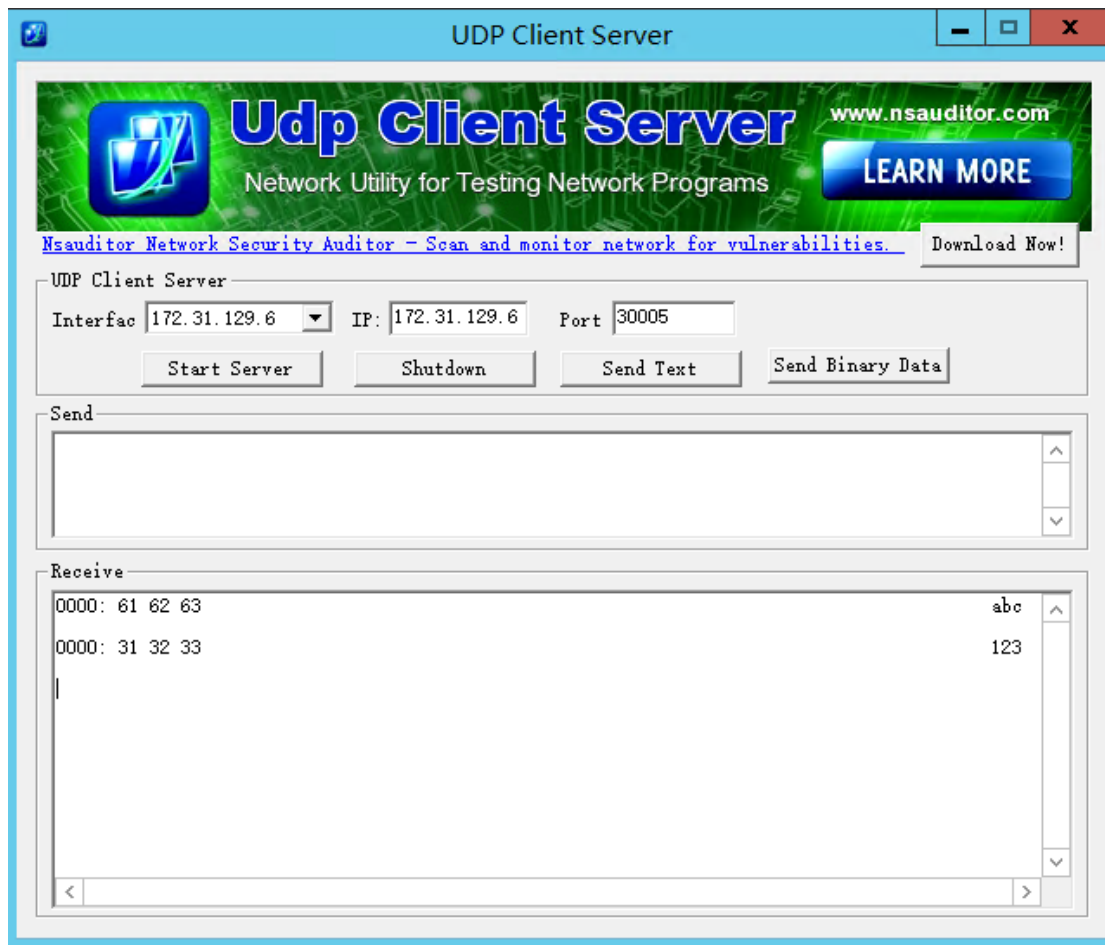

Figure 5-12 UDP Example 4
Step 6: The packets from DTU are received in **UDP Client Server**, as shown in Figure 5-12.